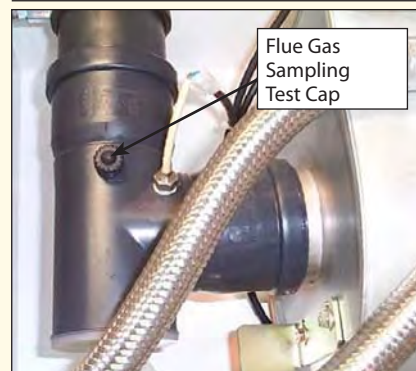

Fig 21.0a – Streamline 75 Illustrated Only
- Remove the Flue Gas Sampling Test Point Cap and insert a flue gas analyzer into the Test Point. The stop on the analyzer probe should be set to a depth of 20-25 mm. See fig 21.0a.